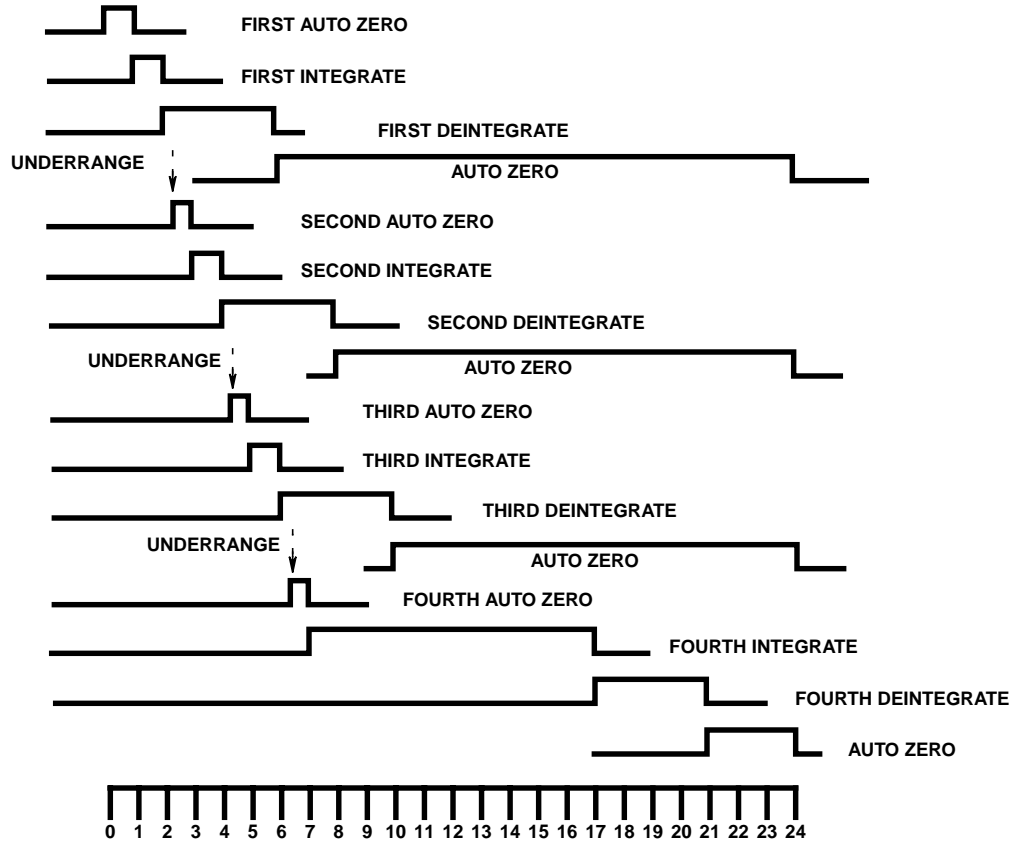
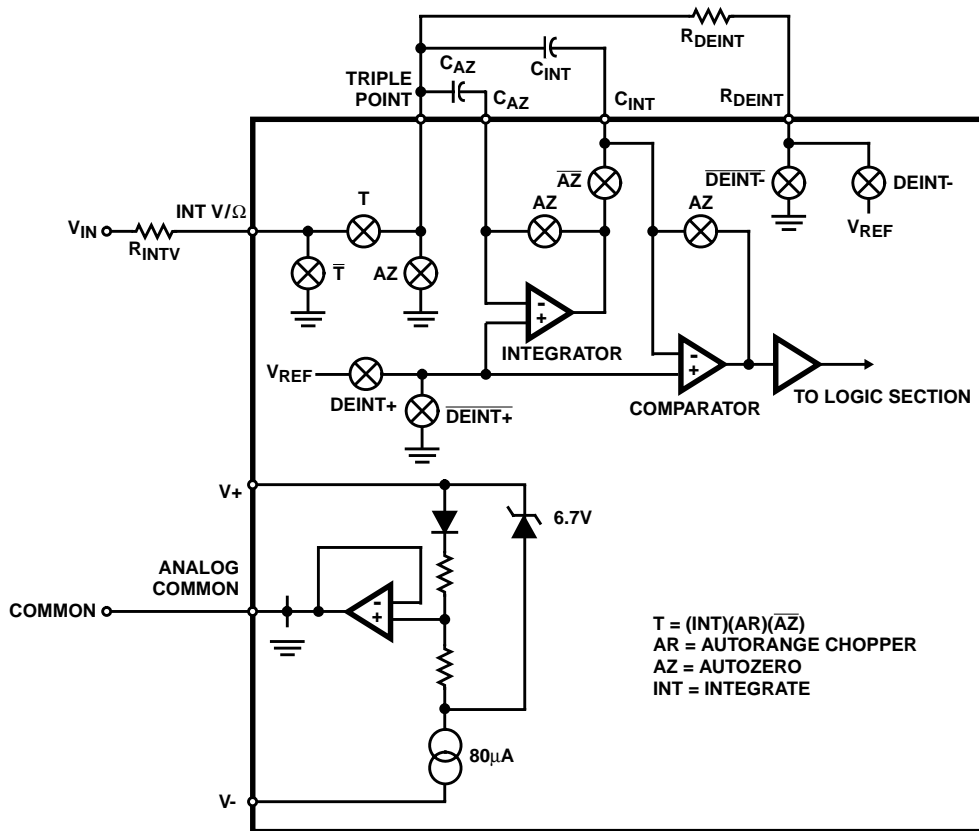

FIGURE 1. LINE FREQUENCY CYCLES (1 CYCLE = 1000 INTERNAL CLOCK PULSES = 2000 OSCILLATION CYCLES)
FIGURE 3. DETAILED CIRCUIT DIAGRAM FOR DC VOLTAGE MEASUREMENT
Electrical Specifications V+ = 9V, T_A = 25°C, V_{REF} adjusted for -3.700 reading on DC volts, test circuit as shown in Figure 3. Crystal = 120kHz. (See Figure 14)
Only those portions of the analog section which are used during DC voltage measurements are shown in Figure 3. As shown in the timing diagram (Figure 1), each measurement starts with an autozero (AZ) phase. During this phase, the integrator and comparator are configured as unity gain buffers and their non-inverting inputs are connected to Common. The output of the integrator, which is equal to its offset, is stored on C_{AZ} - the autozero capacitor. Similarly, the offset of the comparator is stored in C_{INT} . The autozero cycle equals 1000 clock cycles which is one 60Hz line cycle with a 120kHz oscillator, or one 50Hz line cycle with a 100kHz oscillator.